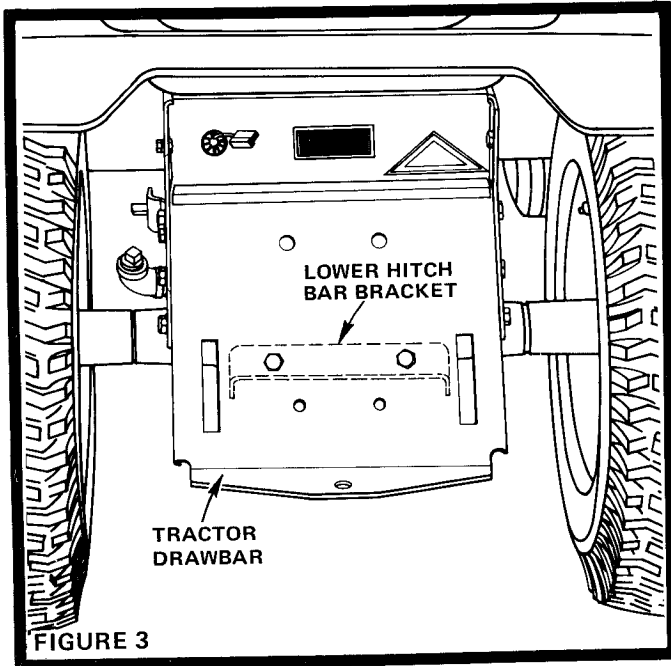

FIGURE 3
IF YOUR TRACTOR REAR REFLECTOR AND DRAWBAR LOOK LIKE THOSE SHOWN IN FIGURE 3 BEGIN ASSEMBLY WITH STEP 6.
IF YOUR TRACTOR REAR REFLECTOR AND DRAWBAR LOOK LIKE THOSE IN FIGURE 3 BEGIN ASSEMBLY WITH STEP 6.
- Position Lower Hitch Bar Bracket to underside of Tractor Drawbar as shown in Fig. 3.